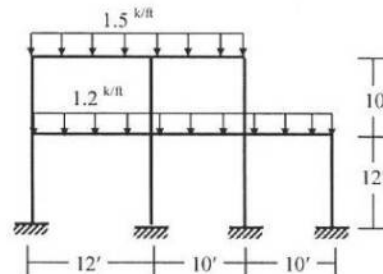

Fig. 2
2. For the 2-storied frame structure loaded as shown in Fig. 2, use the approximate location of hinges to draw the SFD and BMD of the beams and columns. Assume equal I for all columns.